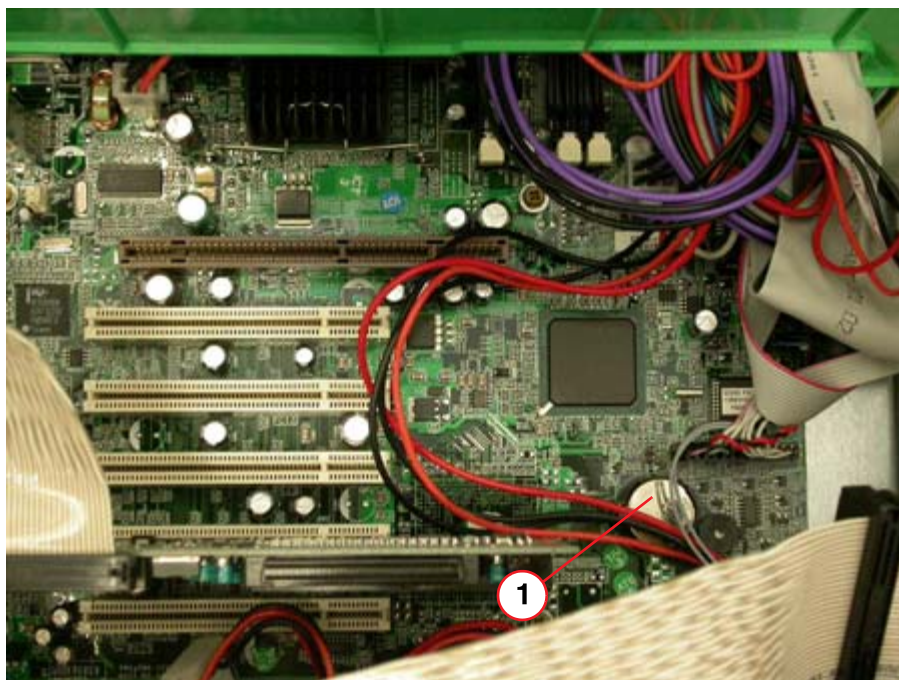

Fig. 31: PC Celsius 444
- Remove the BIOS battery using a piece of plastic (1/Fig. 31 / p. 53).